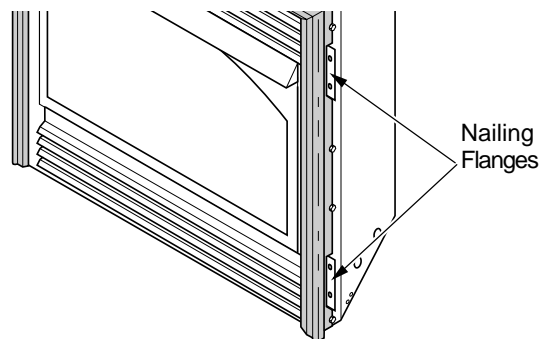

Figure 11 - Location of Nailing Flanges
7. Break off nailing flanges (see Figure 11) with hammer or pliers.